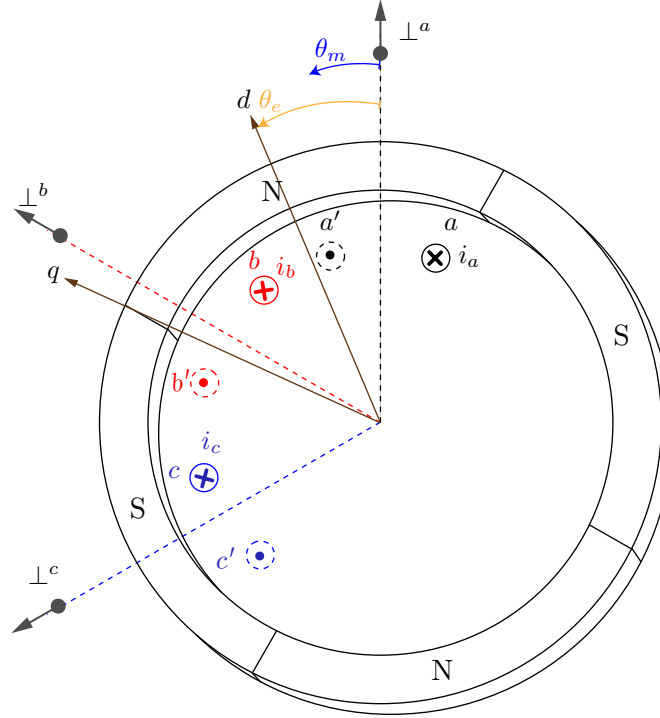

Figure 2: Magnetic ring with two pole pairs.
Problem 2: In this problem, we will study the details of a four pole machine ($p=4$) as shown in Fig. 2. The stator windings corresponding to the three phases are separated by 120° electrical angles. We only show the windings for one complete electrical cycle (or half mechanical cycle) : $0^\circ < \theta_m < 180^\circ$. In a complete machine, similar set of winding is repeated for another cycle $180^\circ < \theta_m < 360^\circ$. The current directions shown in the winding is due to an externally applied voltage source that is not shown in the figure. The three phase currents are denoted as i_a, i_b, i_c . The inductance and resistance of each phase winding is L and R respectively. Consider Φ_{pk} to be the peak flux and N , the number of turns of each coil per phase. In Fig. 2, we try to show only one such coil for each respective phase. Assume q axis leads d axis and all angles are measured with respect to \perp_a (as in class notation).
- Add the external voltage source v_a, v_b, v_c , and label its terminals correctly in Fig. 2 such that it matches the current directions labeled. A cross means current is going into the paper.
- Rewrite the previous set of equation in a rotating frame of reference as shown in Fig.2. From lecture notes you will follow that this happens when, $\theta_d(t) = \theta_e(t)$. Redraw the equivalent circuit in the dq reference frame and label the speed-dependent voltages, \mathcal{E}_d and \mathcal{E}_q .
- (f) In the Fig. 2 for a given θ_e , where $\theta_e = \theta_d$, label the direction of following space phasors : (i) Speed-dependent voltage (\mathcal{E}) (ii) Flux linkage due to permanent magnet ($N\Phi_{pk}$).
- (i) Now add the coils for the a,b and c phases for $180^\circ < \theta_m < 360^\circ$ and show the connection of those with the existing coils in Fig. 2 so that the back-emfs of these two coils add up. With these new coils, compare the power developed with the one you obtained in (d)